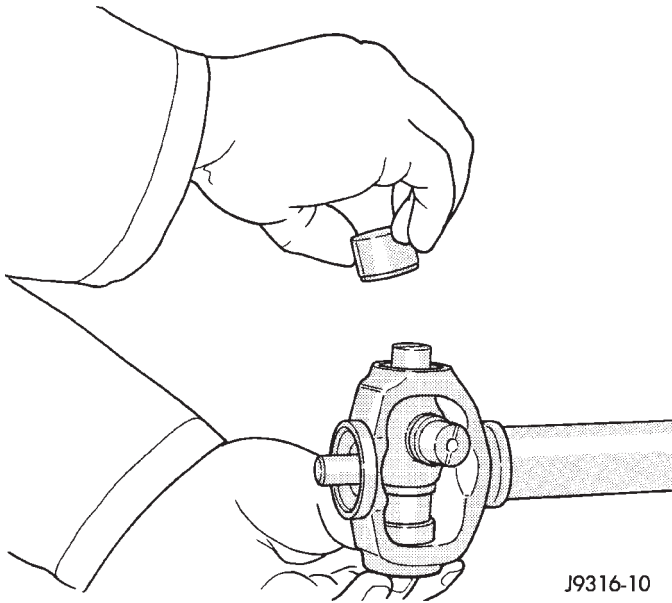

Fig. 28 Install Bearing Assembly
(2) Place a bearing assembly in a tube yoke hole and over a trunnion. Keep the needle bearings upright in the bearing assembly (Fig. 28). A needle roller lying at the bottom will prevent proper assembly. Be sure to remove any lube fittings that may interfere with removal.